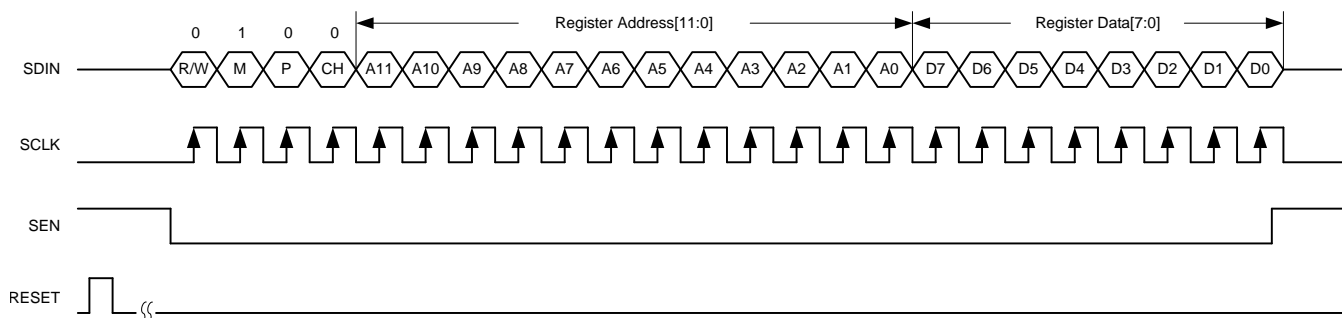

Figure 68. SPI Page Selection
2. Setting the M bit to 1 and specifying the page with two register writes. Note that the P bit must be set to 0, as shown in Figure 68.